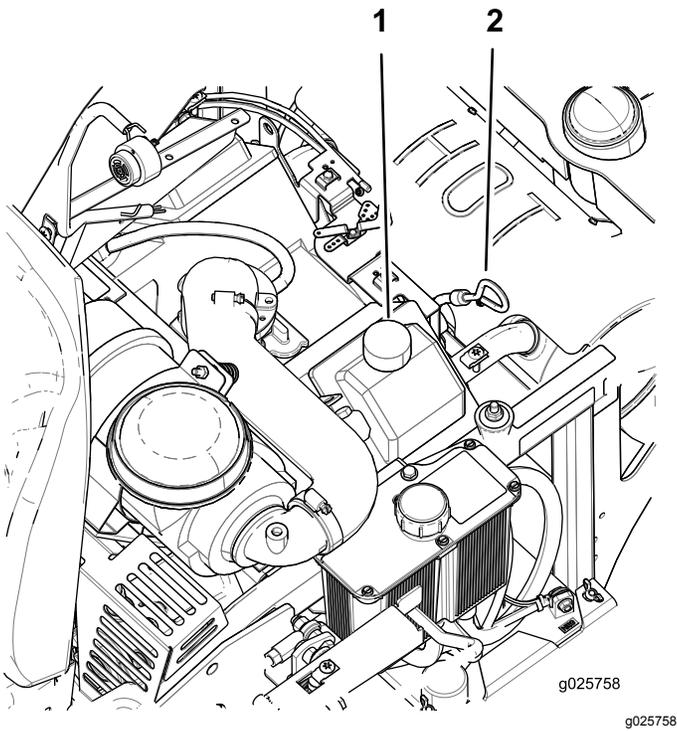

Figure 38
5. Clean the area around the dipstick (Figure 38).
9. If the oil level is low, wipe off the area around the oil-fill cap, remove cap and fill to the **full** mark on the dipstick (Figure 38).
4. Slowly pour approximately 80% of the specified oil into the filler tube and slowly add the additional oil to bring it to the **full** mark on the dipstick (Figure 38).
5. Start the engine and drive to a flat area. Check the oil level again (Figure 38).